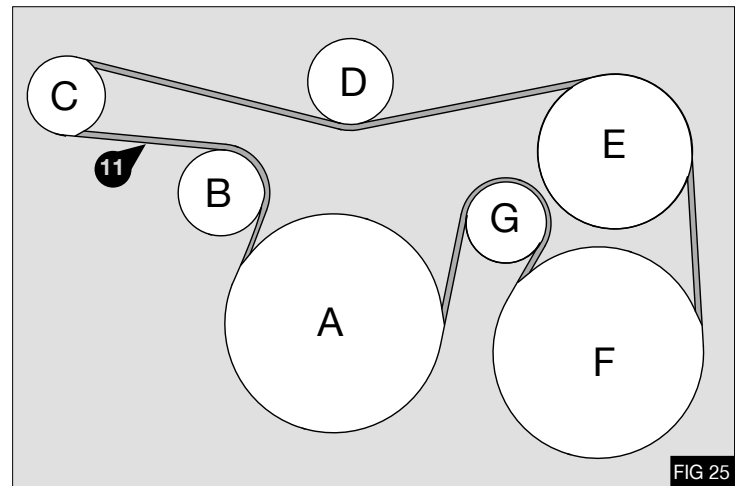

FIG 25
15. Fit the belt provided (11) as shown in the diagram - Fig 25